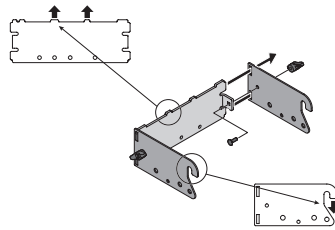

Figure 1
1. Attach the two hitch side brackets to the rear support bracket (rider hitch bracket assembly 689-00304A) using two carriage bolts (710-0276) and wing knobs (720-04122) from hardware pack 689-02364. See Figure 1.
NOTE: The hooks on the side brackets should point downwards and the tabs on the rear plate point upwards as shown in Figure 1.